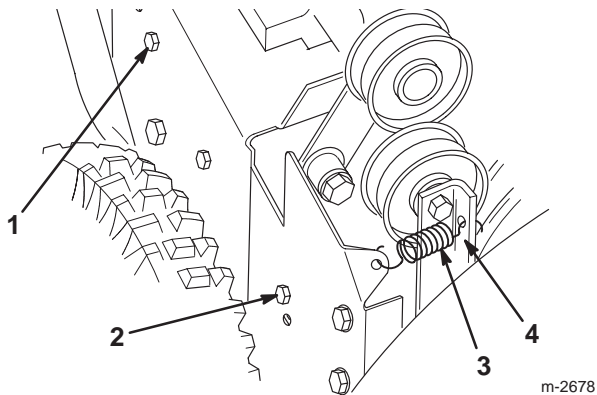

Figure 31
2. Bolt (3)
4. Loosen the auger brake arm assembly by loosening the rearmost screw and removing the front screw (Fig. 31).
5. Remove the idler pulley spring (Fig. 31). Let the brake arm assembly hang free but out of the way.
4. Loosen the auger brake arm assembly by loosening the rear screw and removing the front screw that fasten the auger brake arm assembly to the frame (Fig. 31).
5. Remove the idler pulley spring (Fig. 31). Let the brake arm assembly to hang free but out of the way.